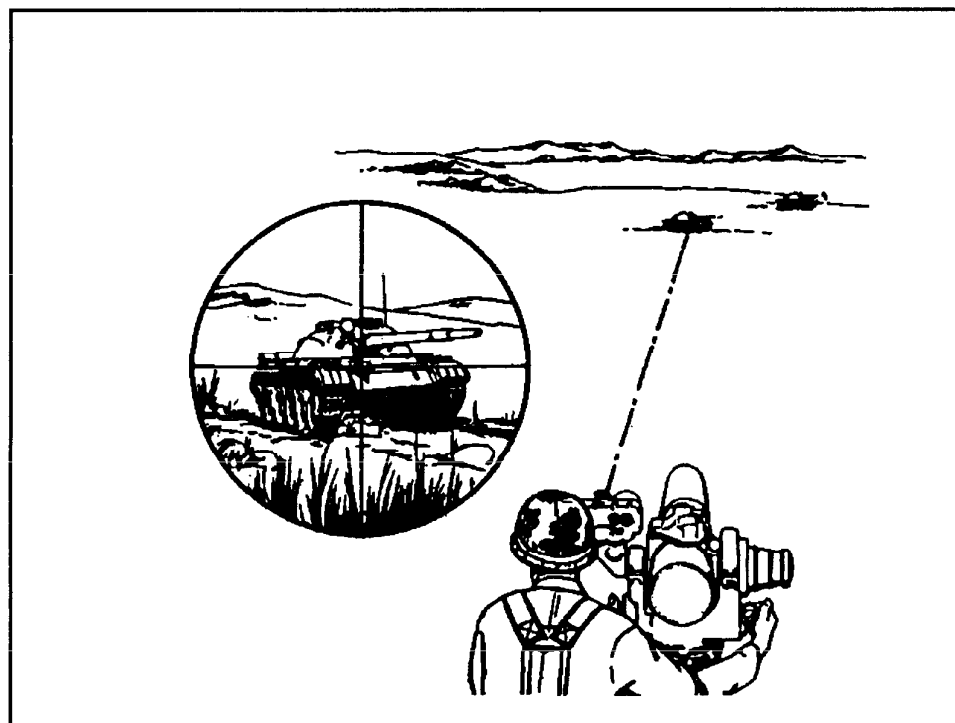

**Figure 6-10. Control knobs.**
a. Position the eye well into the rubber eyepiece and place both hands firmly on the control knobs (Figure 6-10). Place the body so there is no contact between the shoulder and the encased missile. The only contact with the launcher is with the hands and eye. Assume a firing position that is comfortable. An uncomfortable position causes muscle tension, which affects the ability to track smoothly.